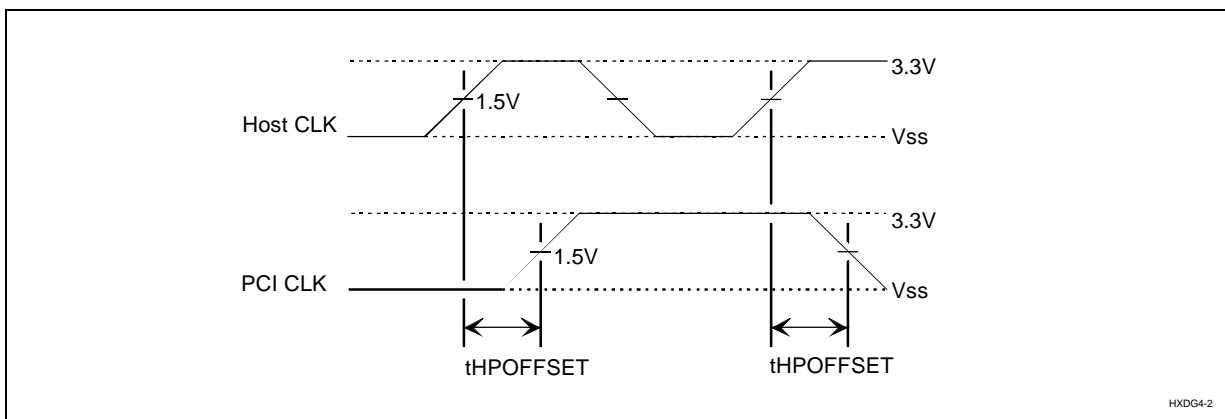

Figure 4-2. Host CLK to Host CLK Skew
3. The Host CLK must always lead the PCI CLK as shown in Figure 4-2. This must be guaranteed by design under loaded conditions. This is a function of drive strength as well as routing topologies. This is a combined CLK driver requirement and a layout requirement.